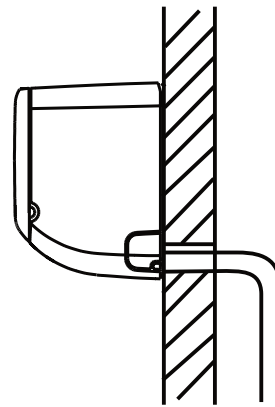

Fig. 6.2a
2. Using example **Fig. 6.2a** as a guide, make sure your drain pipe is run in a similar manner. The other examples in **Fig 6.2** represent things you should avoid when installing your drain pipe.
Make sure to arrange the drain hose correctly according to Fig. 6.2a.